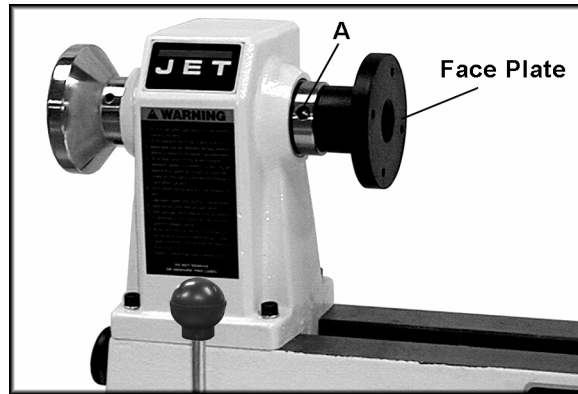

Figure 6
**Face Plate** (Figure 6) – Screws on to the headstock and is used in face plate turning operations. Mount your workpiece onto the faceplate with brass screws (not provided). Make sure the screws are not so long that they will enter the area of the workpiece where the material is to be removed.
To remove the face plate from the spindle, place the drift rod into hole (A, Figure 6) and let the drift rod contact the bed of the lathe for leverage. Then unscrew the face plate.